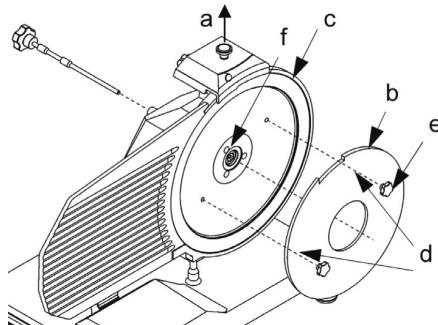

Fig. 5 – Assembling the Plexiglas blade removal tool (b)
To clean the opposite surface of the blade it is necessary to remove the blade (see Fig. 5).
- disassemble the blade guard (see Fig. 5);